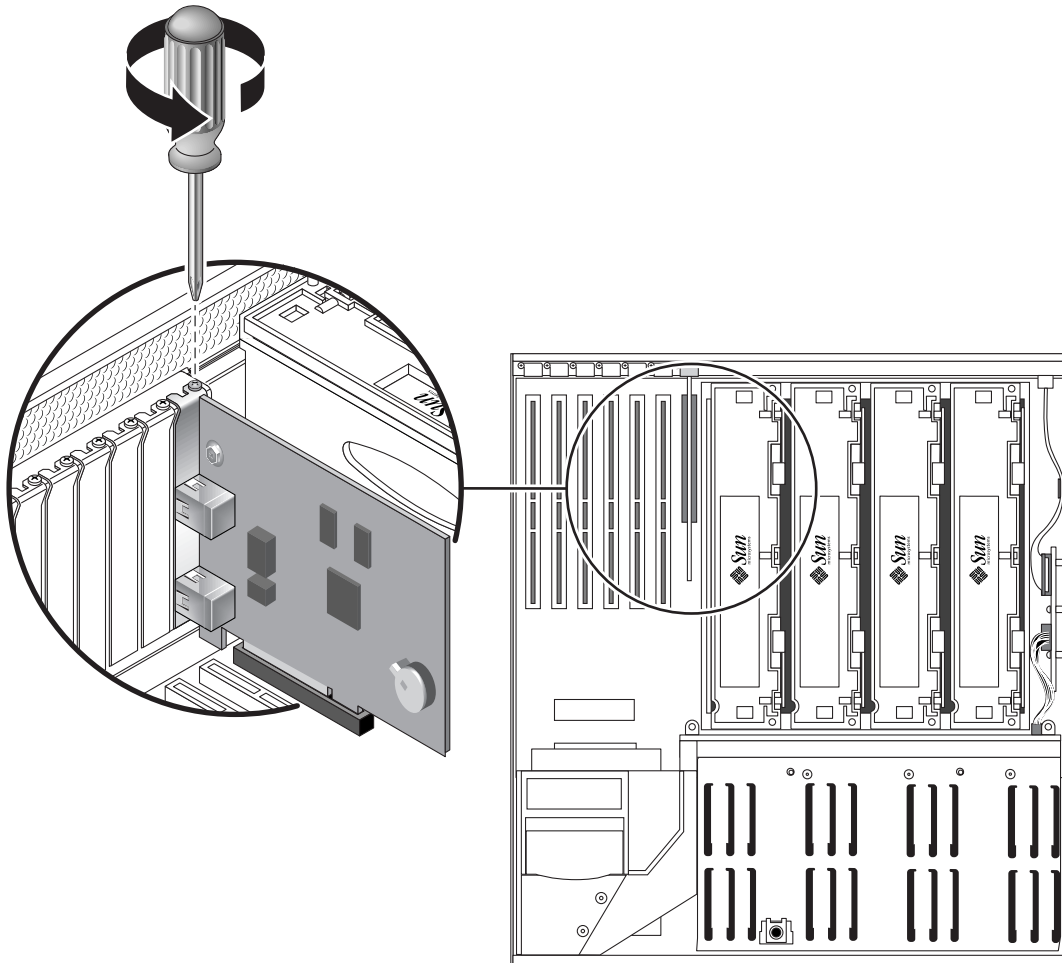

FIGURE 4-28 Removing the ALOM System Controller Card
7. Remove the Phillips No. 1 screw securing the card to the system back panel (FIGURE 4-28).